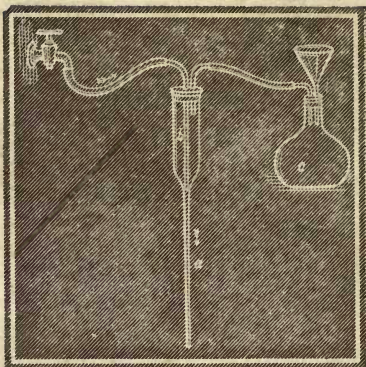

Fig. 51.
In most schools this should be a volunteer class and the work extra, put in after school hours or on Saturdays. Be sure you want to do the work before you undertake it. Don't talk to others while at work, except in rare instances so far as quietly to obtain information. Don't "fool" in the laboratory and report those who insist upon doing it, that they may be promptly removed from the class. Have no false honor about this, for the nonsense of one may vitiate all *accurate* work for a class.—Reserve a portion of the original solution to begin upon again in case of accident, also for special tests.—Common drinking water, boiled, cooled, and filtered, usually answers for all work with the first two Groups; but distilled water must be used for the other Groups, and is better for all reagents.—Precipitate *thoroughly* each Group, but on the other hand avoid much *excess* of the precipitating reagent.—Evaporate filtrates if they become too dilute. A coal-oil stove makes a cheap source of heat for evaporation.—Avoid breathing, to any great extent, fumes of hot HCl , $\text{H}_4\text{N H O}$, H N O_3 , aqua regia, etc. Hold dishes at arms' length while pouring such liquids. Under a gas chimney with flame at base to increase draft, is the proper place to generate noxious fumes; but such work may be easily done upon a shelf by open window with slight outward draft.—Make $(\text{H}_4\text{N})_2\text{S}$ by passing H_2S into dilute $\text{H}_4\text{N H O}$ (10%) till saturated and then add equal volume of $\text{H}_4\text{N H O}$. Digest this with a little S and filter to make $(\text{H}_4\text{N})_2\text{S}_2$ (*yellow*), or expose $(\text{H}_4\text{N})_2\text{S}$ to air for sufficient time.—A convenient H_2S generator is shown in FRONTISPIECE (2). The middle bulb contains Fe S. A test-tube with small hole in bottom (containing a little broken glass upon which is Fe S), lowered into wide-mouthed bottle of dilute $\text{H}_2\text{S O}_4$ and test-tube closed by perforated rubber stopple through which is glass tube connected with rubber tube held by spring, Fig. 46, makes a cheap H_2S apparatus.—Fig. 50 shows a convenient reagent bottle with pipetted stopple. Take test-tube to bottle to add reagent, not bottle to test-tube, and be careful not to stir up any sediment which may have fallen in case drinking water has been used.—Fig. 51 represents a system of *rapid filtration*. The stream of water must be regulated. The longer the tube *a*, the more rapid the filtering. Chamber *b* must be air-tight at top. Pt (foil) funnel-shaped tip must support filter paper at bottom, and the wet edges of filter paper must be pressed firmly against upper part of funnel. A partial vacuum is formed in chamber *b* and flask *c*.—For color of precipitates, additional tests, etc., see EXP. 97 and INDEX, also have a work on *Qualitative Analysis* upon the desk for reference.